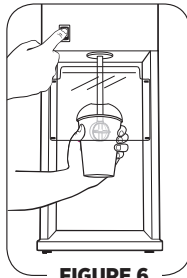

FIGURE 6
Press ON/OFF power switch to OFF to stop the machine. See Figure 6.
• **For Mix'n Machine Standard Model (Countertop and Wall Mount):** Press ON/OFF power switch to OFF to stop the machine. See Figure 6.